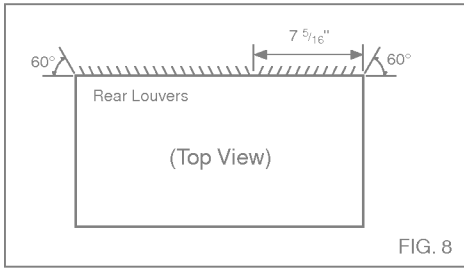

FIG. 8
- Redirect the louvers at the back of the wall sleeve to 60° angle as shown in the FIG. 8. The use of pliers is recommended.